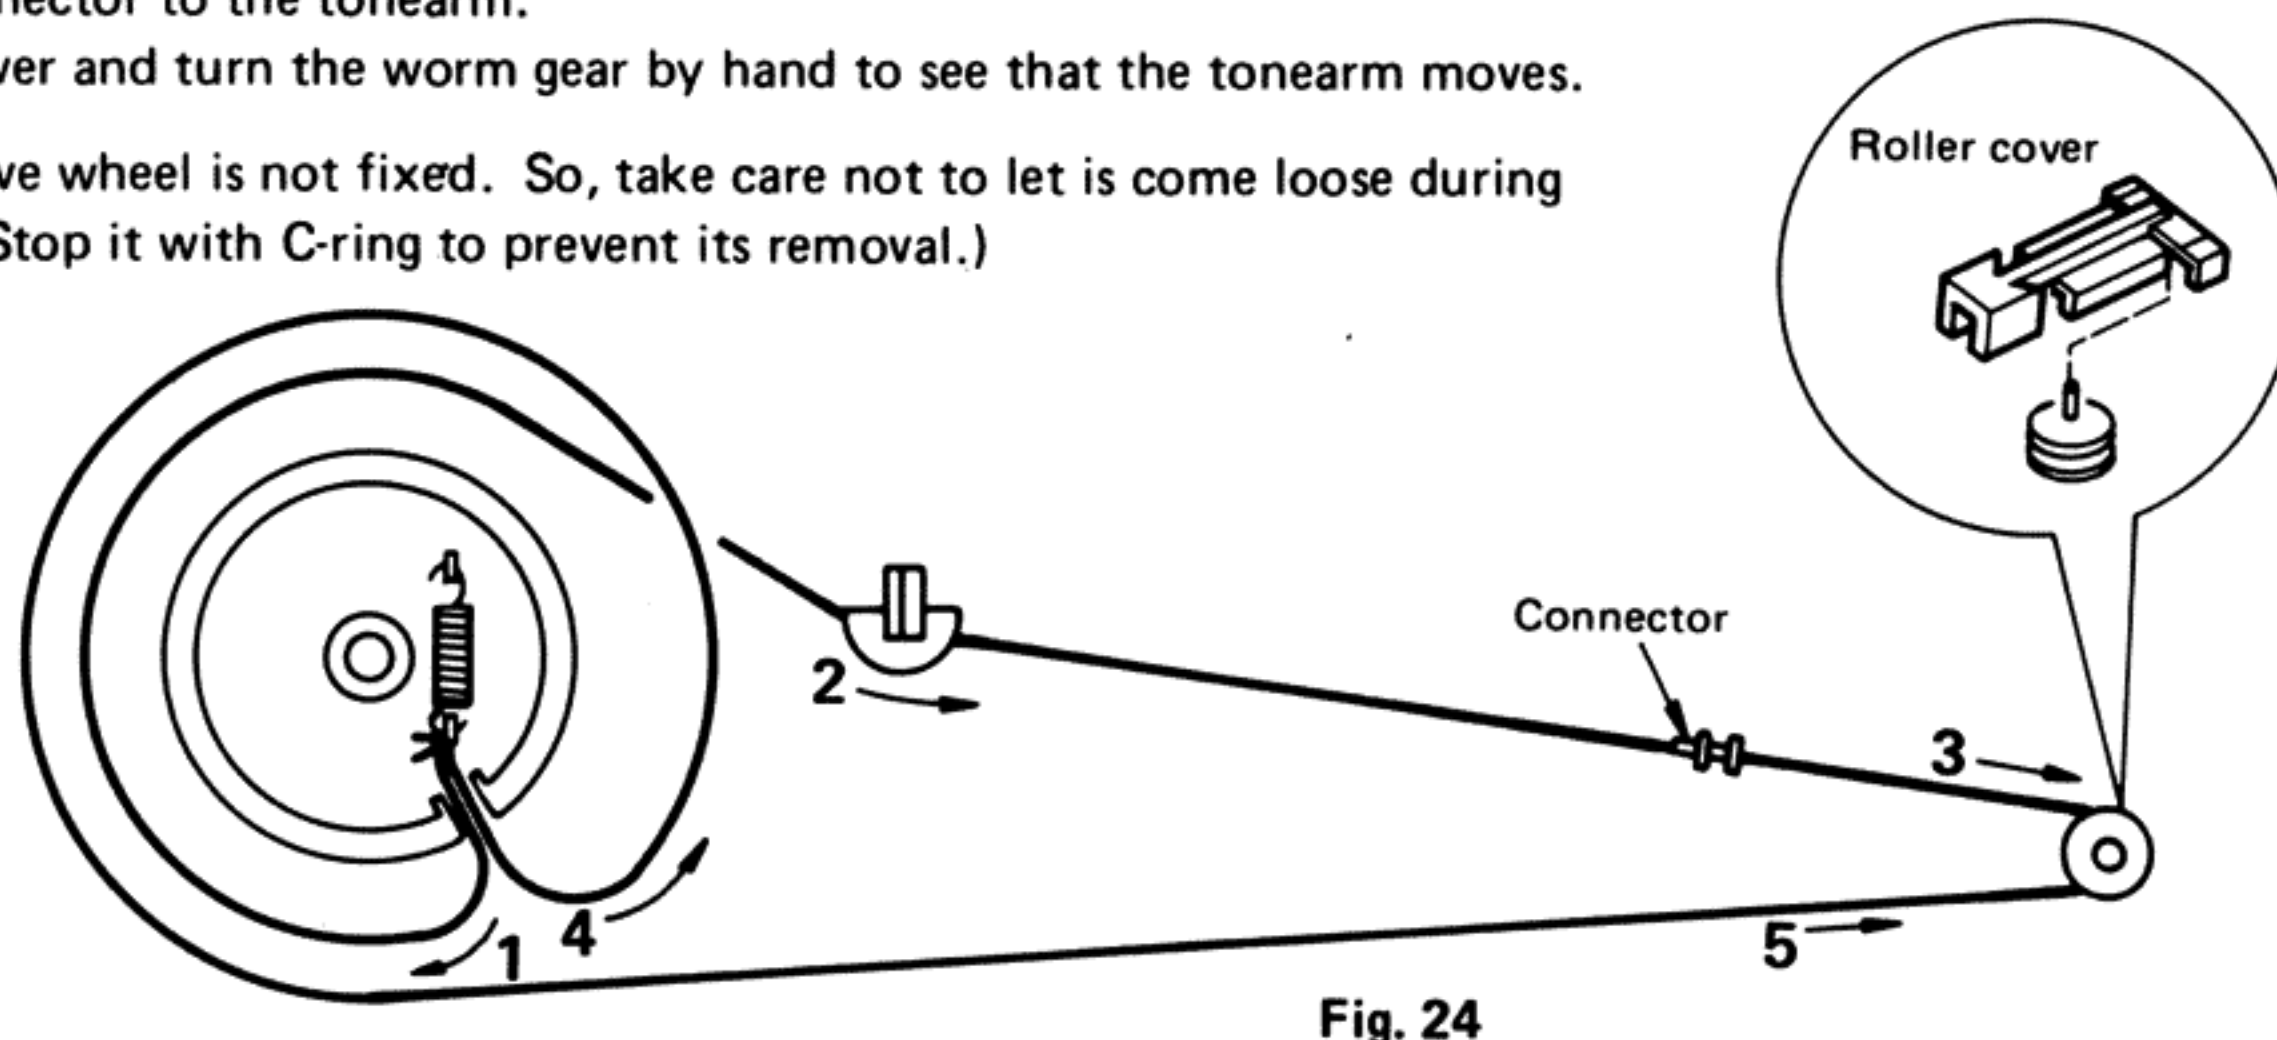

Fig. 24
2. Remove the roller cover. (Fig. 24)
3. Set the rope in the order of 1 ~ 5 (Fig. 24)